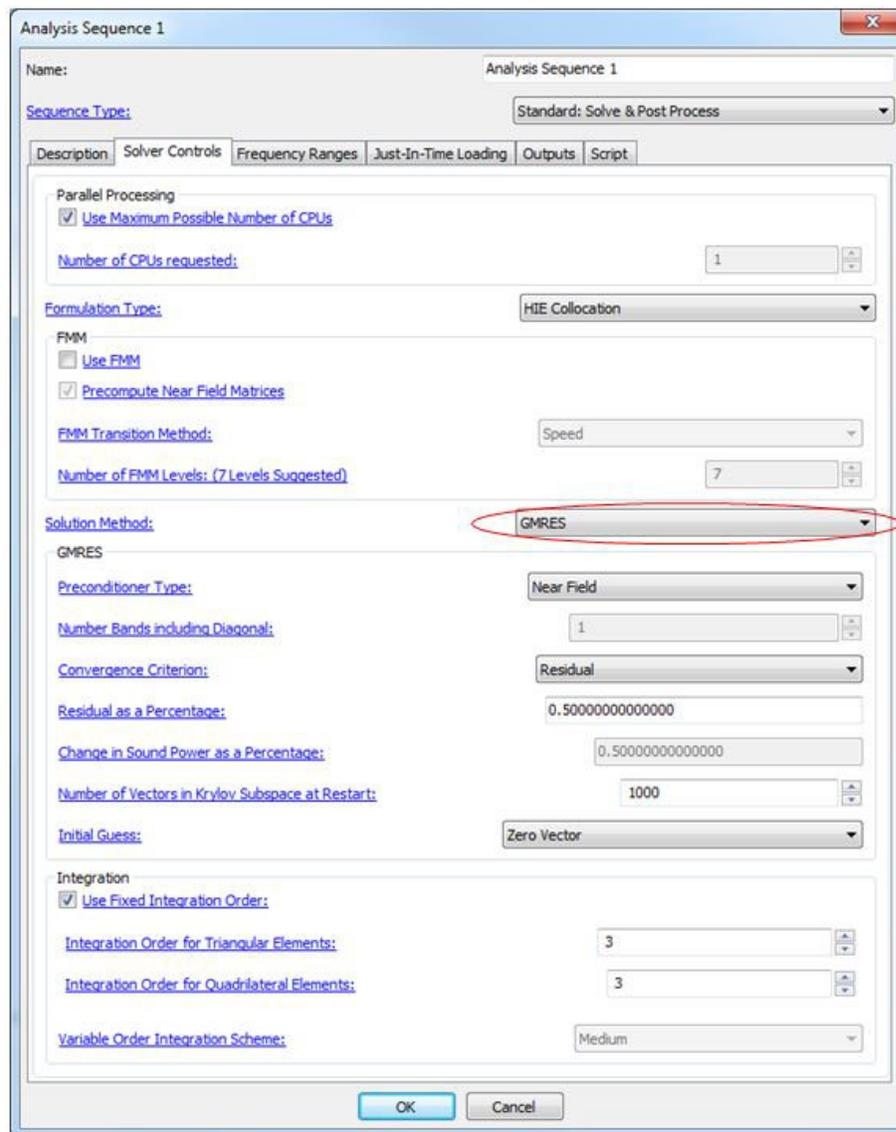

Figure 7.12 GMRES iterative solver.
**GMRES** This option solves the linear system of equations by the iterative method *Generalized Minimum Residual Method* (GMRES). (Figure 7.12).